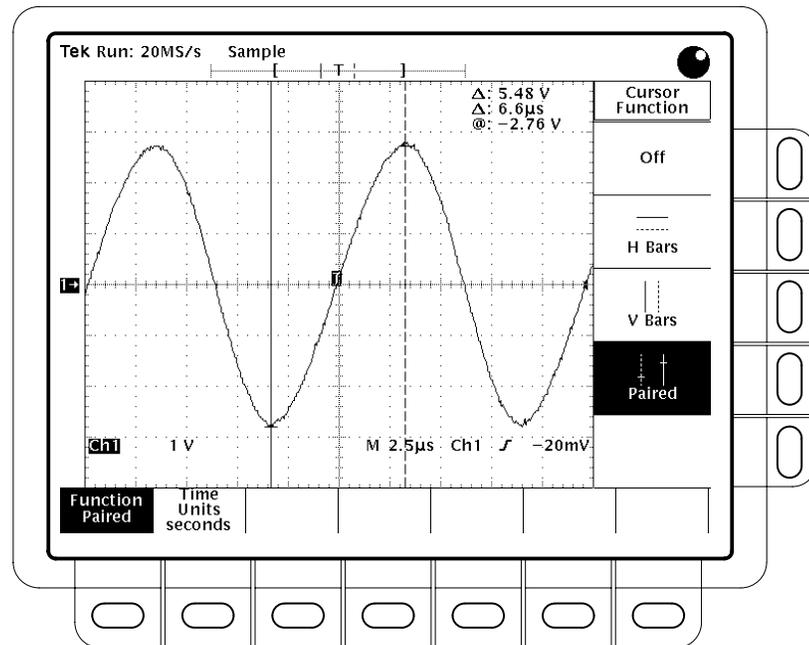

Figure 3–16: Paired cursor measurements of a sine wave
- Use the General Purpose Knob to move one cursor to a desired measurement point. For example, if you wanted to measure both the peak-to-peak voltage and period of a sine wave, you would start by moving one paired cursor to a “valley” (see Figure 3–16).